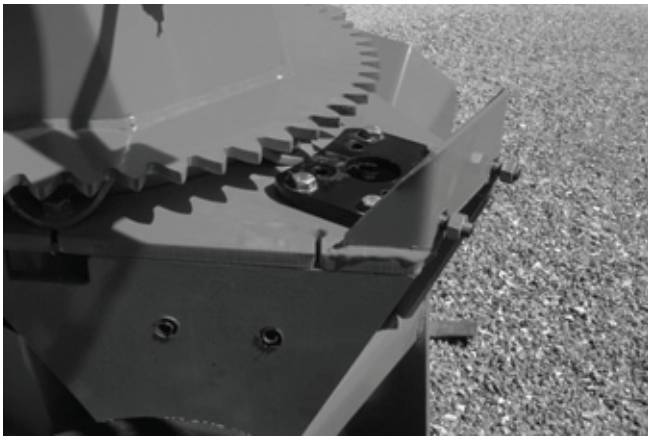

Figure 32
- 2) Install the mounting plate; put the required spacers between mounting plate and base of chute (see p. 35 to 40 for chute model). Do not tighten the bolts immediately, they will be tightened at final adjustment (Fig. 32).